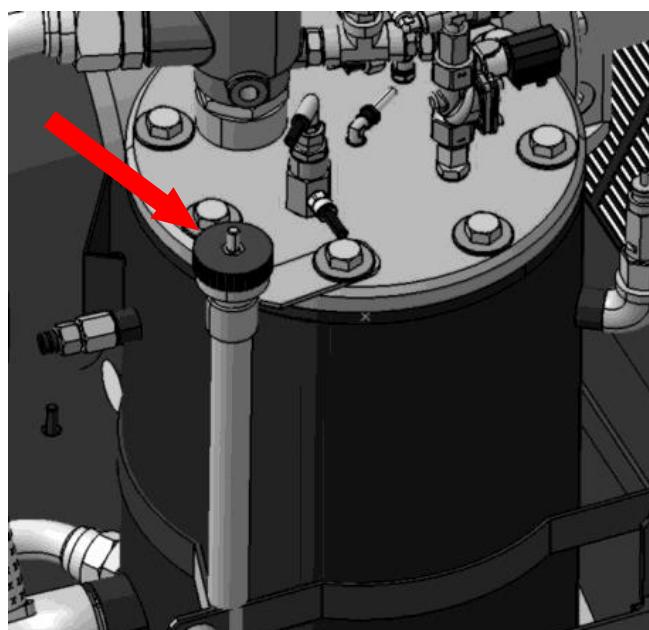

Figure 10.1.1 Checking the oil level of the compressor
- a) Remove and clean the dipstick Figure 10.1.1